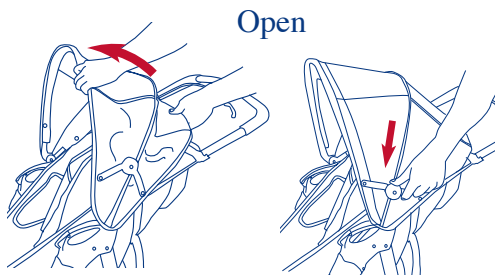

Figure 10.
- To open the canopy, push forward on the front edge of the canopy. Please see figure 10. Push downward on the tensioners to secure